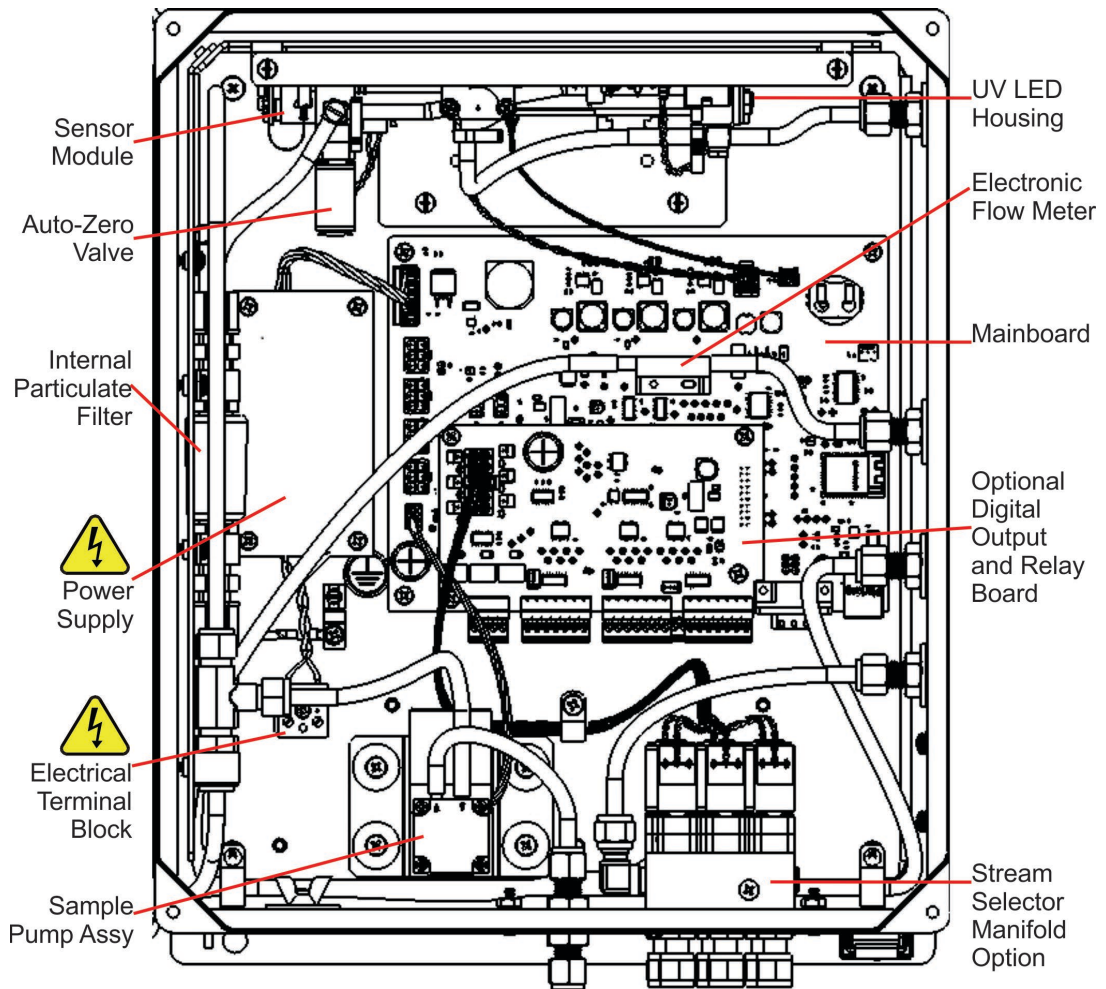

Figure 7-1. Internal Layout, NEMA Configuration
Figure 7-1 shows the internal layout of the 480L as reference in the procedures that follow.
3. Locate the internal particulate filter (see Figure 7-1 above). Un-strap the filter from the two plastic hold-down clamps. Note the arrow on the filter showing flow direction.
2. Open front panel and locate sample pump assembly (See Figure 7-1).
2. Open front panel and locate sensor module assembly (Figure 7-1).